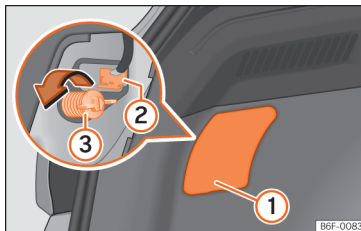
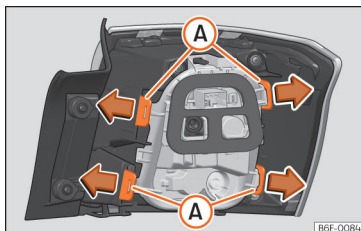

Fig. 59 Luggage compartment: access to the bolt securing the tail light unit.
Fig. 60 Retaining tabs on reverse side of tail light.
- Remove the lid, levering the flat side of a screwdriver into the recess »» Fig. 59 ①.
- Remove the bulb connector ②.
- Unscrew the light securing bolt ③ by hand or using a screwdriver.
- Remove the bulb holder unlocking the retaining tabs »» Fig. 60 A.